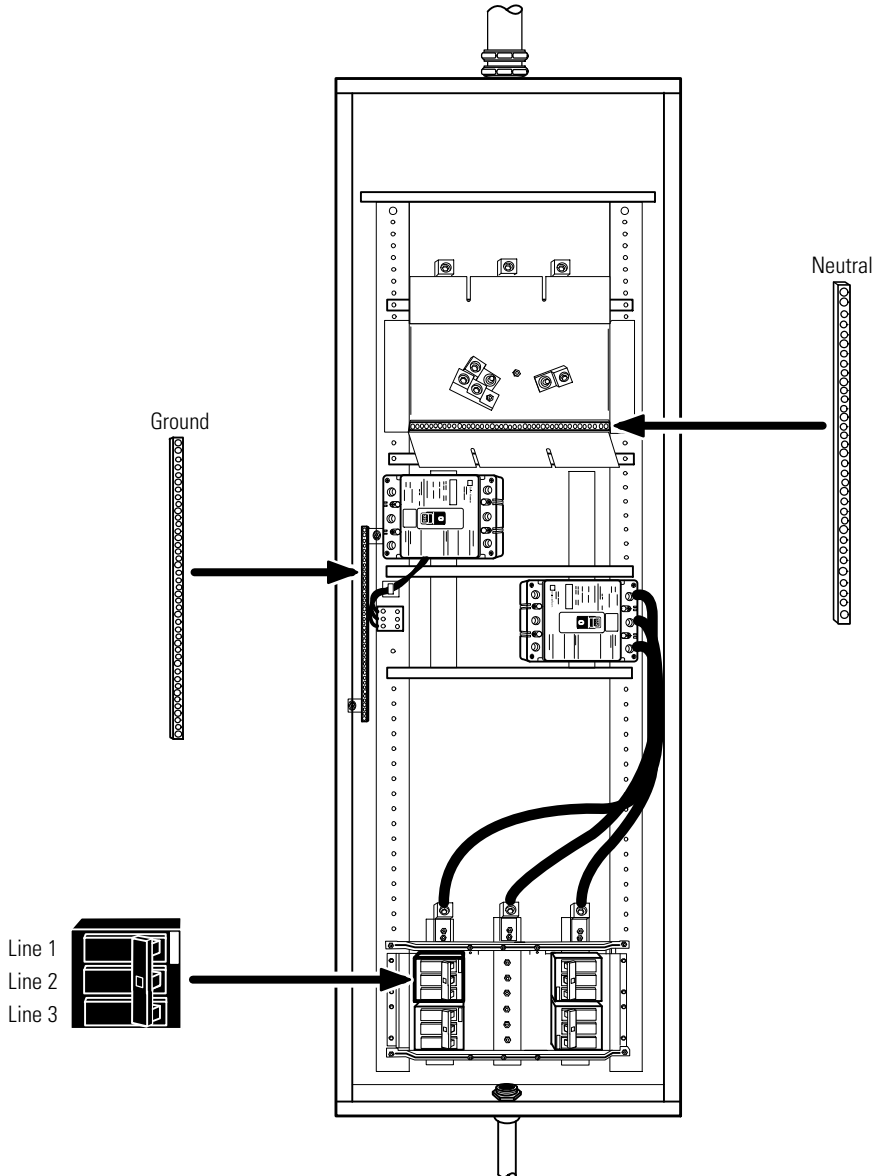

Figure 34. Version 2 Bypass Cabinet UPS Output to Bypass Wiring
15. Hardwire the output terminations from the UPS to the bypass cabinet (see Figure 34).